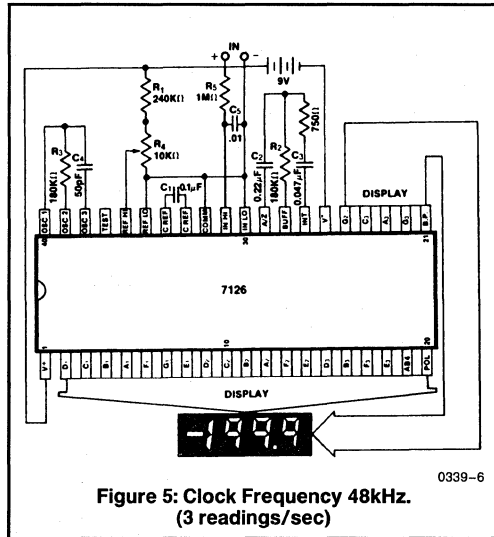

Figure 5: Clock Frequency 48kHz. (3 readings/sec)
6. During auto zero phase, current is 10-20 μ A higher. 48kHz oscillator, Figure 5, increases current by 8 μ A (typ).